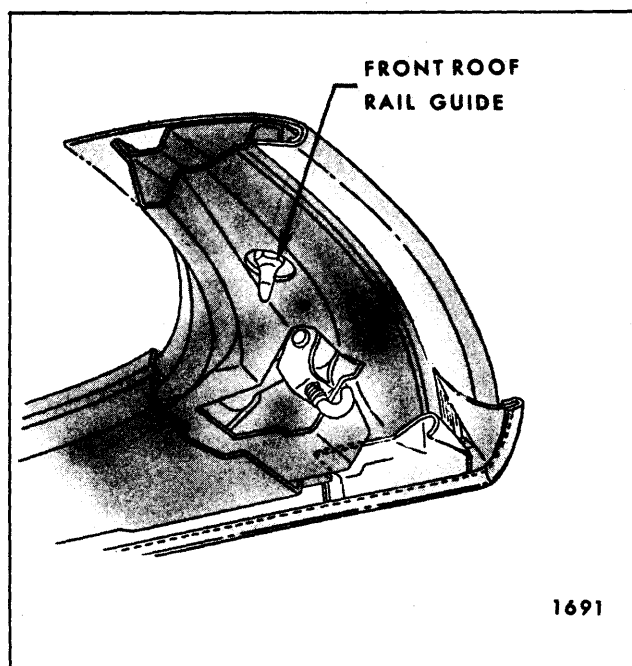

Fig. 13-79—Front Roof Rail Guide and Lock Hook
2. Loosen guide and adjust to desired position; then tighten guide (Fig. 13-79).